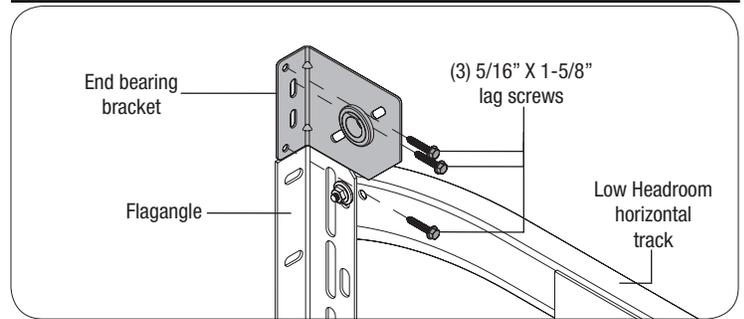

FIG. 9.1
Place the left and right end bearing fixtures above the flagangles. Attach the fixtures to the jamb using (3) 5/16" x 1-5/8" lag bolts, as shown in **FIG. 9.1**.